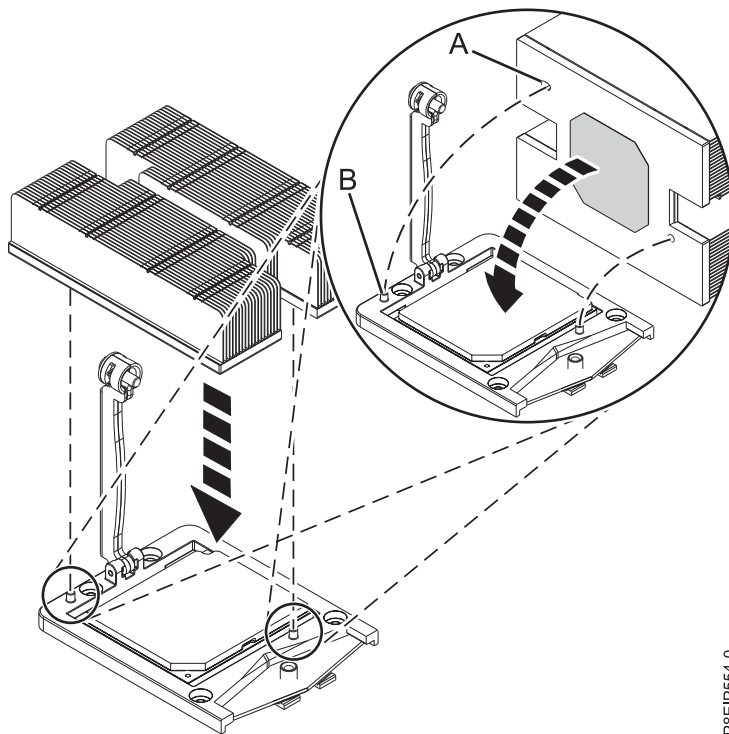

Figure 71. Installing the heat sink
5. If either the TIM or the heat sink is damaged, replace both the TIM and the heat sink. The TIM is pre-applied to the heat sink. Carefully lower the heat sink over the system processor module, ensuring that the holes in the heat sink (A) align with the two guide pins (B) on the socket, as shown in Figure 71.